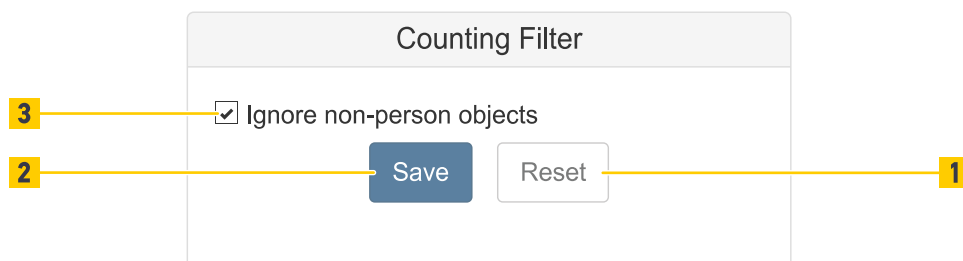

Fig. 102: Counting Filter
- To suppress counting of shopping carts and other objects tick the Ignore non-persons objects checkbox (Fig. 102 /3).
- To go back to the last saved settings click the Reset button (Fig. 102 /1).
- To save all the settings in the device click the Save button (Fig. 102 /2).